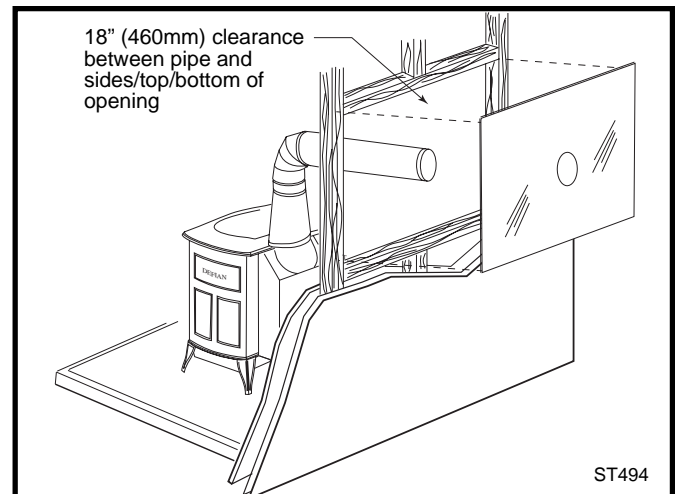

Fig. 9 An approved wall pass-through for Canada.
**In Canada**, The Canadian Standards Association has established different guidelines for wall pass-throughs. Figure 9 shows one method, in which all combustible material in the wall is cut away to provide the required 18" (460 mm) clearance for the connector. The resulting space must remain empty. A flush-mounted sheet metal cover may be used on one side only. If covers must be used on both sides, each cover must be mounted on noncombustible spacers at least 1" (25 mm) clear of the wall.